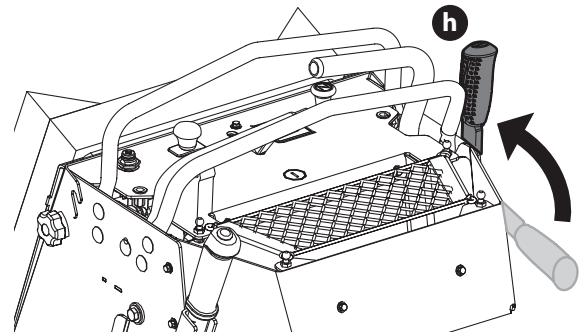

Fig. 3
6. To engage the parking brake, pull back completely on the parking brake lever (h) (Fig. 3).